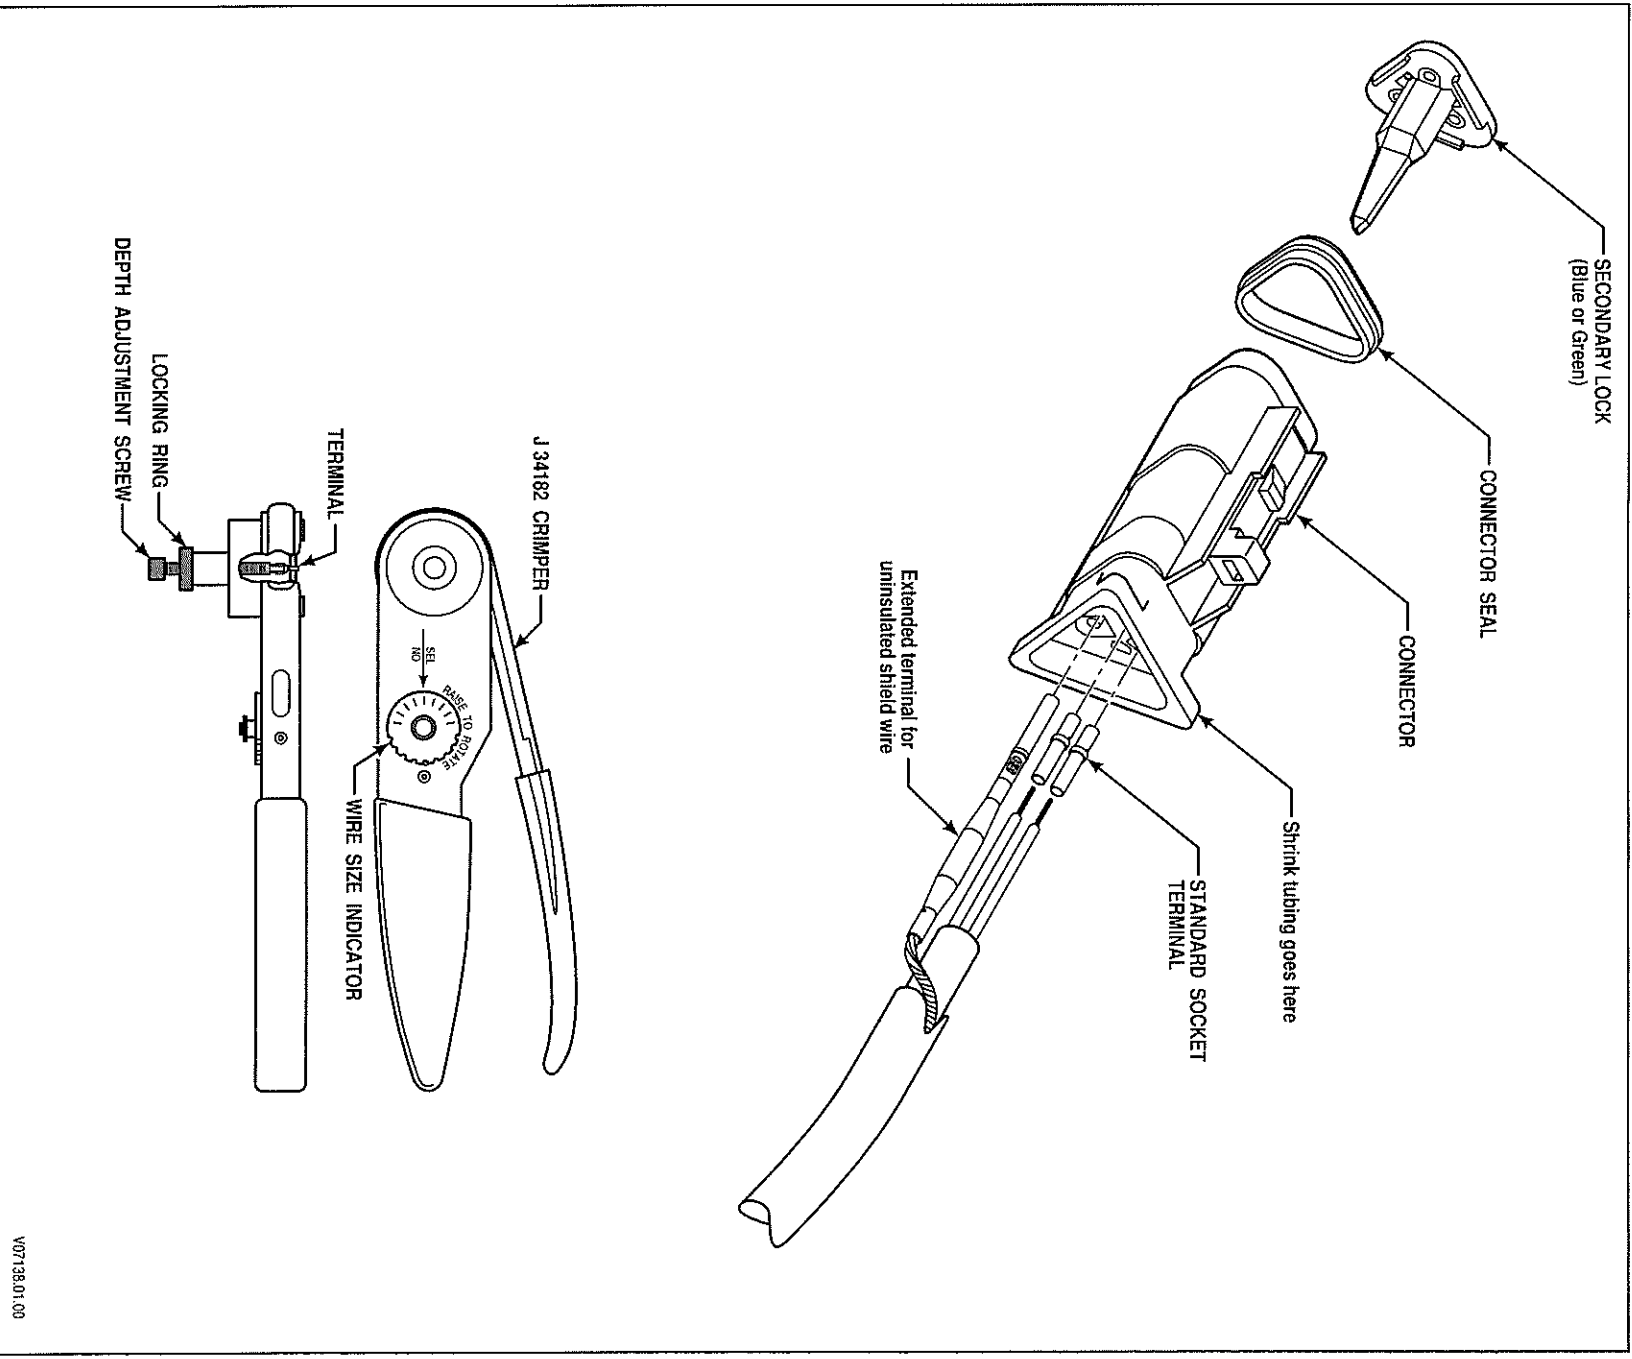

Figure E-15. Deutsch DT Series Connector (3-Way J1939 Interface)
B. Terminal Removal (Figure E-15)
C. Terminal Crimping (Figure E-15)
C. Terminal Crimping (Figure E-15) (*cont'd*)
2. Push the terminal and wire into the connector until it locks into position. (Figure E-15). Check the front of the connector to see that the terminal is at the same height as the other terminals. Tug on the wire at the rear of the connector to be sure that the terminal is locked in place.